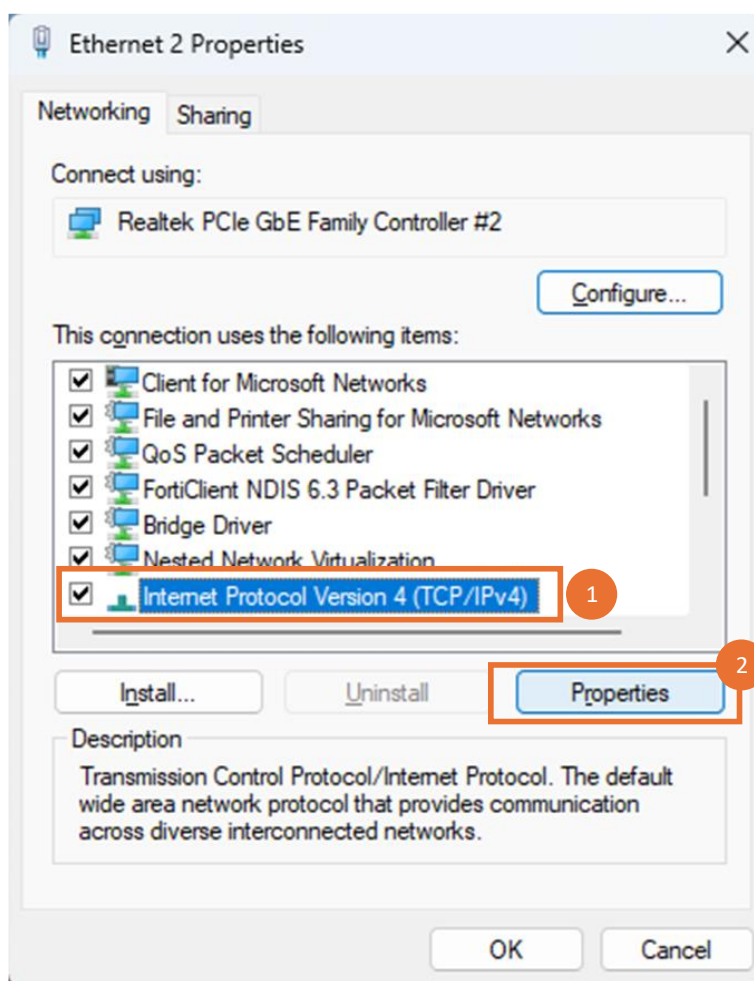

Figure 5.23. Changing Internet Protocol Version 4(TCP/IPv4) Settings
6. Select Internet Protocol Version 4(TCP/IPv4). Then click on the Properties button following Figure 5.23.